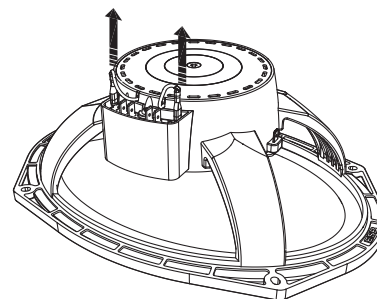

Fig. 1
- 1- Unplug the tweeter wires from crossover network (Fig 1).